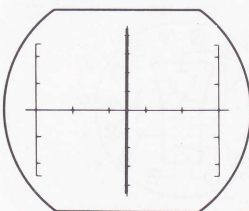

Fig. 14
4. Adjust R21 (horizontal position) and R27 (vertical position) so that line is centered as shown in fig. 14.